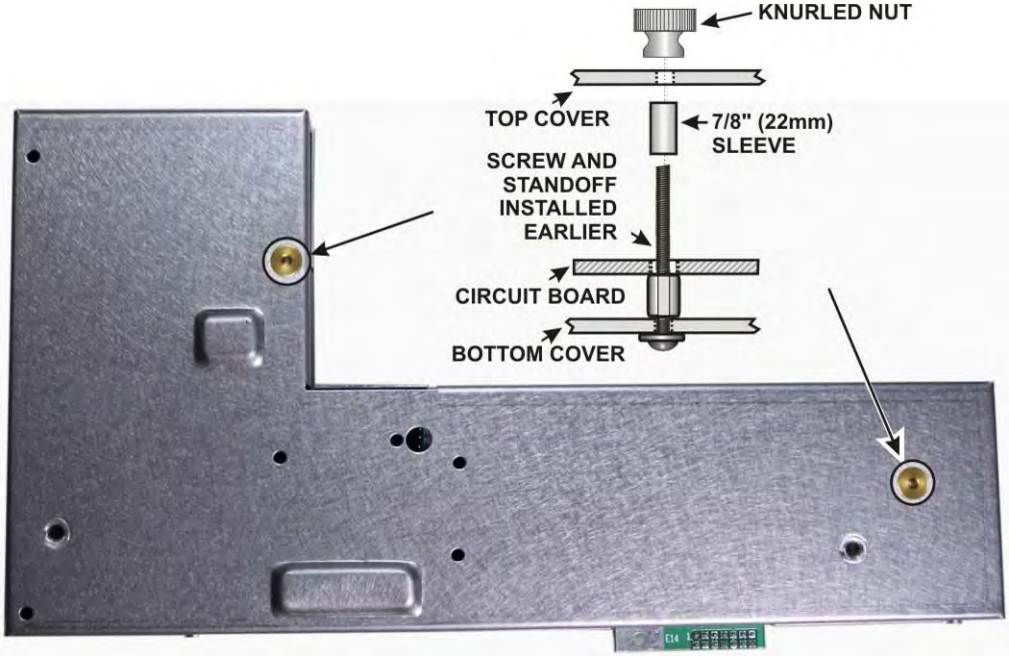

Figure 42. Installing the Shield Top.
□ Locate the sub receiver RF module top cover. It has a label with places to record the bandwidth (BW), and frequency offset (FRQ) of each filter. Copy the information from Table 1. Note that the filters read right to left on the label, just as they were installed on the pc board. Place a check mark by Sub (for sub receiver) on the label. Use pencil in case you change your filters later. The label also has a row for Gain. This is a value you can determine after your installation is finished to adjust the overall gain for each roofing filter so the audio remains constant when switching from one filter to another. Making this adjustment is described under *Filter Loss Compensation* in your K3 Owner's manual.
□ Place a 7/8" (22 mm) unthreaded sleeve over each of the long screws so they rest against the top of the circuit board (see Figure 42), then place the top cover over the assembly and adjust its position so the edge of the top fits inside the bottom and rests against the KRX3A main board on all sides. The long screws will pass through holes in the top cover. Secure the top with knurled nuts tightened only enough to hold the cover in place so it isn't loose.